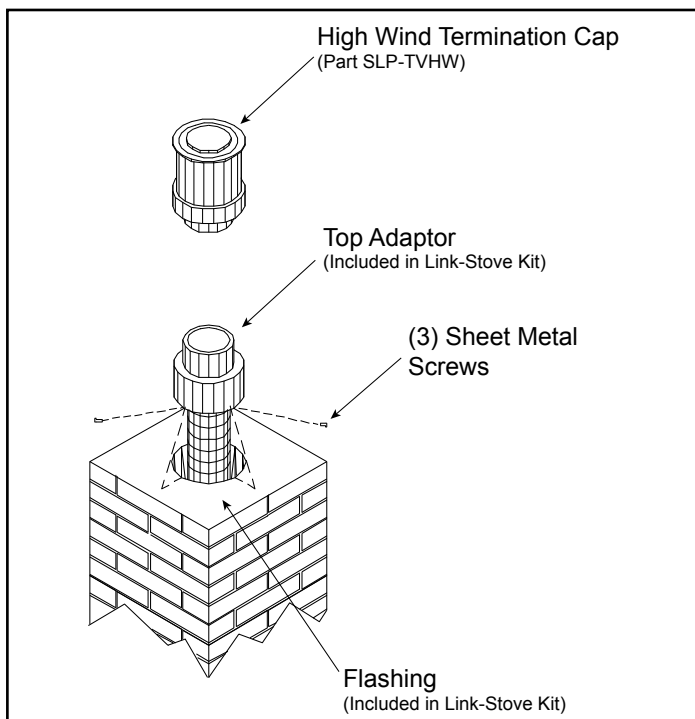

Figure 4.26
8. Secure the top adapter to the flashing. Use three sheet metal screws through the side of the top adapter into the flange on the flashing. See Figure 4.26. Twist lock the high wind termination cap on to the top adapter.